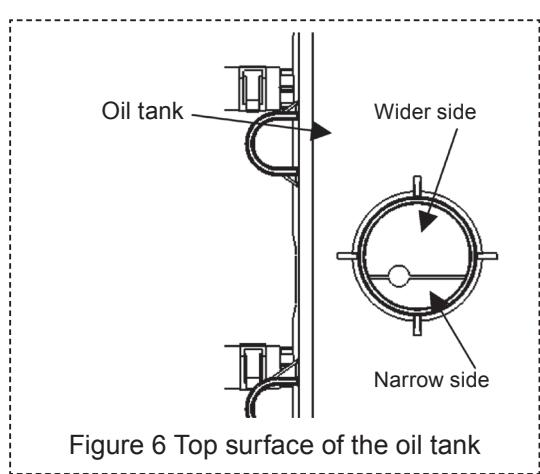

Figure 6 Top surface of the oil tank
Next, insert the pump in the wider side of the oil tank to remove the oil from the internal tank (Figure 6).
- 7) Use the oil container to slowly fill 43 liters into the oil tank from the oil tank aperture and 3 liters into the engine via the engine head. When doing so, fill the oil from the wider side of the oil tank aperture (Figure 6).
⑥ Operation check